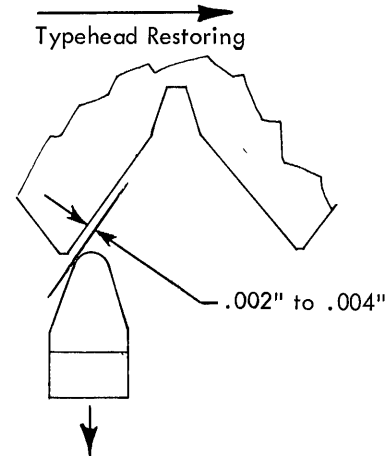

FIGURE 131. Withdrawal Clearance For The -5 Character
13. Print Shaft Timing - Advance or retard the print shaft relative to its gear to obtain the proper timing of the rotate detent. Hand-cycle an upper case -5 character and observe the rotate detent as it operates in the typehead notch. The detent must enter the correct detent notch and withdraw without restricting the restoring of the typehead. There should be .002" to .004" backlash felt in the typehead when the detent is near the bottom of the detent notch (Fig. 131).